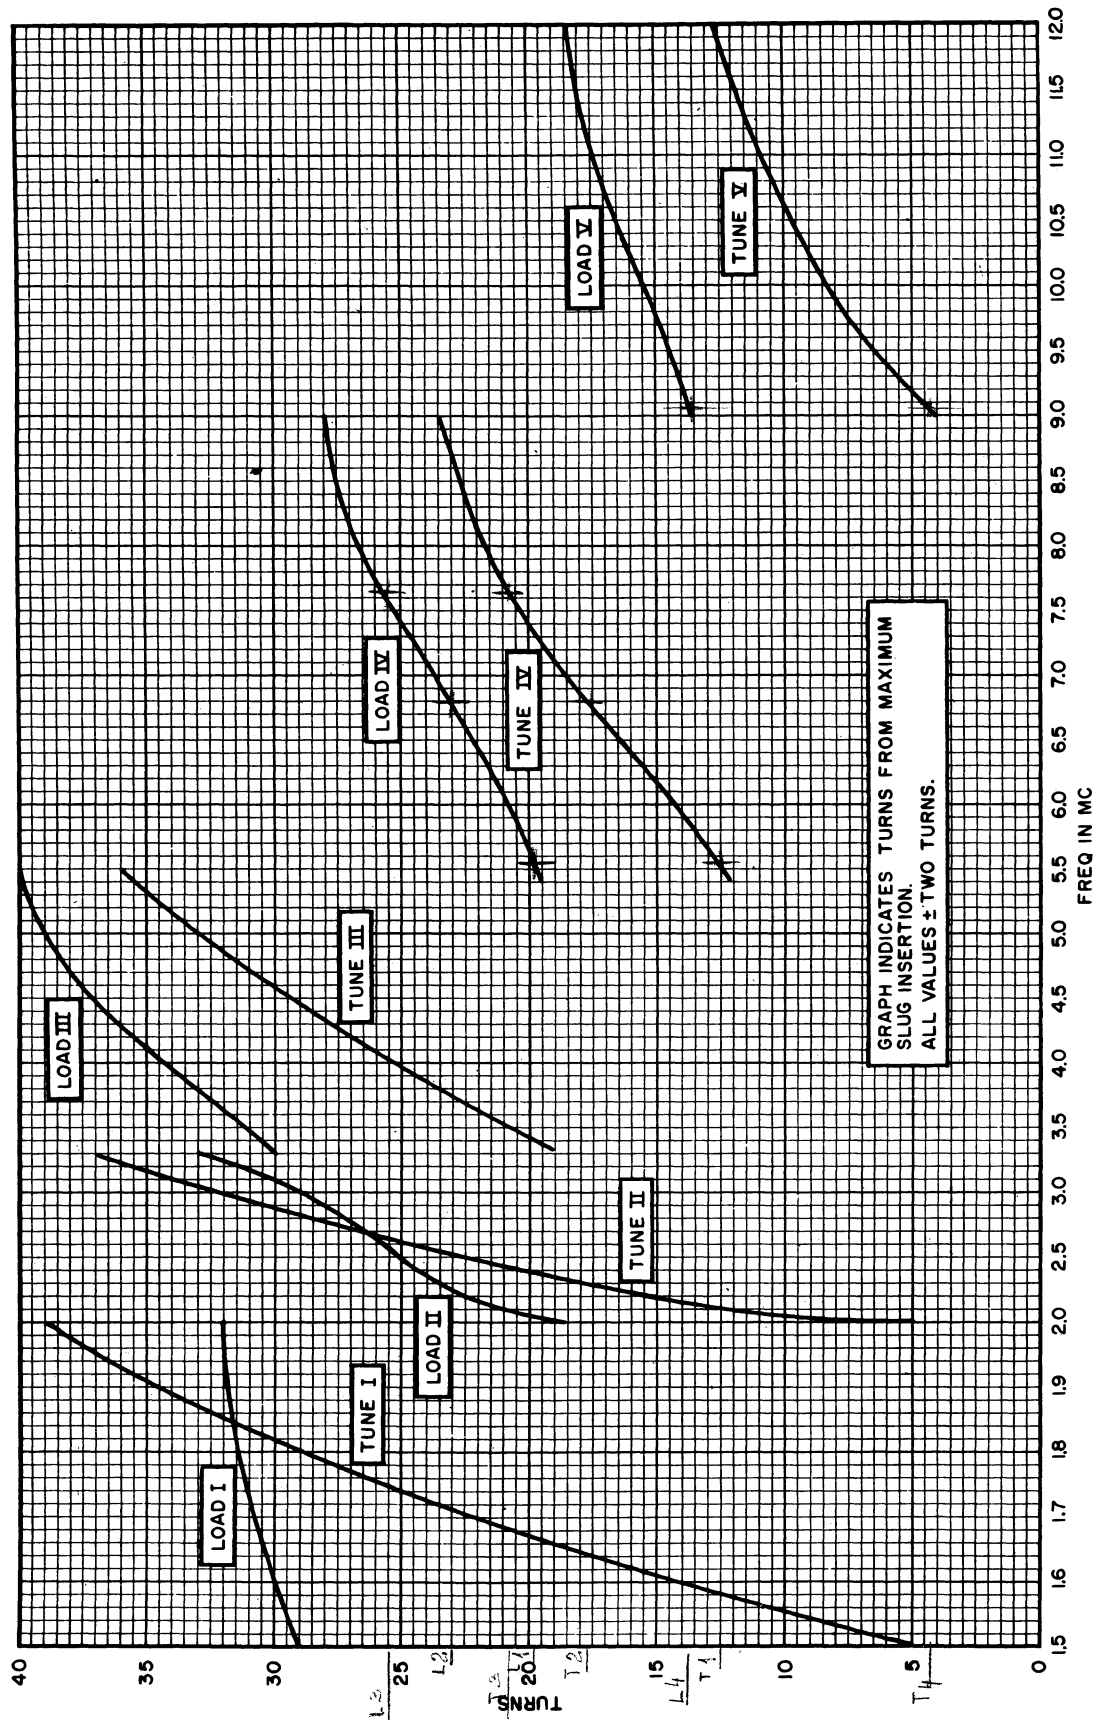

Figure 5-2 PA Coil Calibration for 52 Ohm Load
- (c) Refer to figure 5-2 and run the rollers of the power amplifier tuning and loading coils to the position corresponding to the channel frequency.
- (l) Refer to Figure 5-2 for approximate PA coil settings for a 52-ohm resistive antenna. Adjust the TUNE coil in the appropriate PA Tank coil assembly in either direction until PA cathode current dips. Adjust for current minimum.